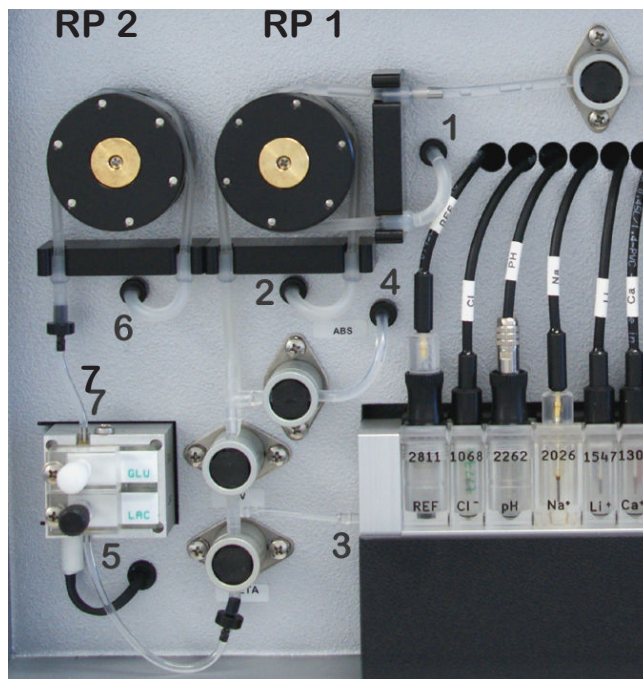

Figure 32 Roller Pumps
- Put the new Tube to the connectors 2, 3, 4 and 5 and connect it with the tube at position 3 as shown in figure 32.
- Pull the Tube through the lower Tension Block and position both Stoppers into the **Stopper-section at the back** (see figure 32).
- Put the new Tube to the connector 1 and fit the other into the WASH valve and connect the end with the sample-port insert as shown in figure 32.
- Pull the Tube through the right Tension Block and position both Stoppers into the **Stopper-section at the front** (see figure 32).
- Pull the Tube through the Tension Block and position both Stoppers into the **Stopper-section** (see figure 32).